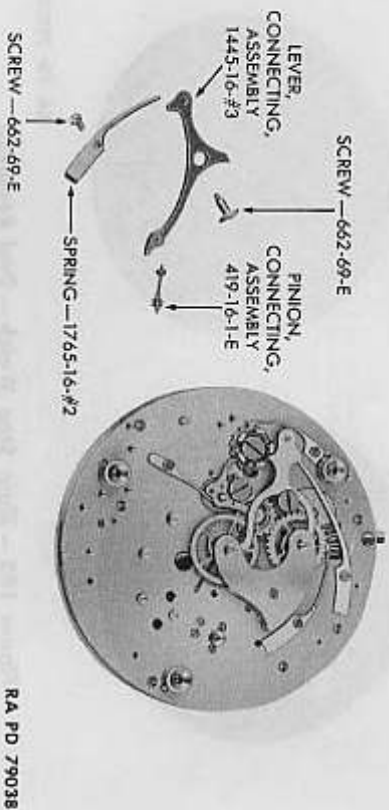

Figure 194 — Elgin Stop Watch — Connecting Lever Assembly Removed
- f. Remove Connecting Lever Assembly and Connecting Pinion (fig. 194). Remove connecting lever spring screw and remove spring. Remove connecting lever screw and lever. Remove connecting pinion by grasping it with tweezers, but do not grasp pinion by the teeth, which are easily damaged. Use care when lifting pinion out of movement in order to protect it from hooking the third wheel.
g. **Replace Connecting Pinion and Connecting Lever Assembly.** Replace connecting pinion, carefully aligning pivot in its bearing. Replace connecting lever carefully, placing pinion arbor pivot in its hole in lever, and secure with connecting lever screw. Replace connecting lever spring and secure with screw (fig. 194).